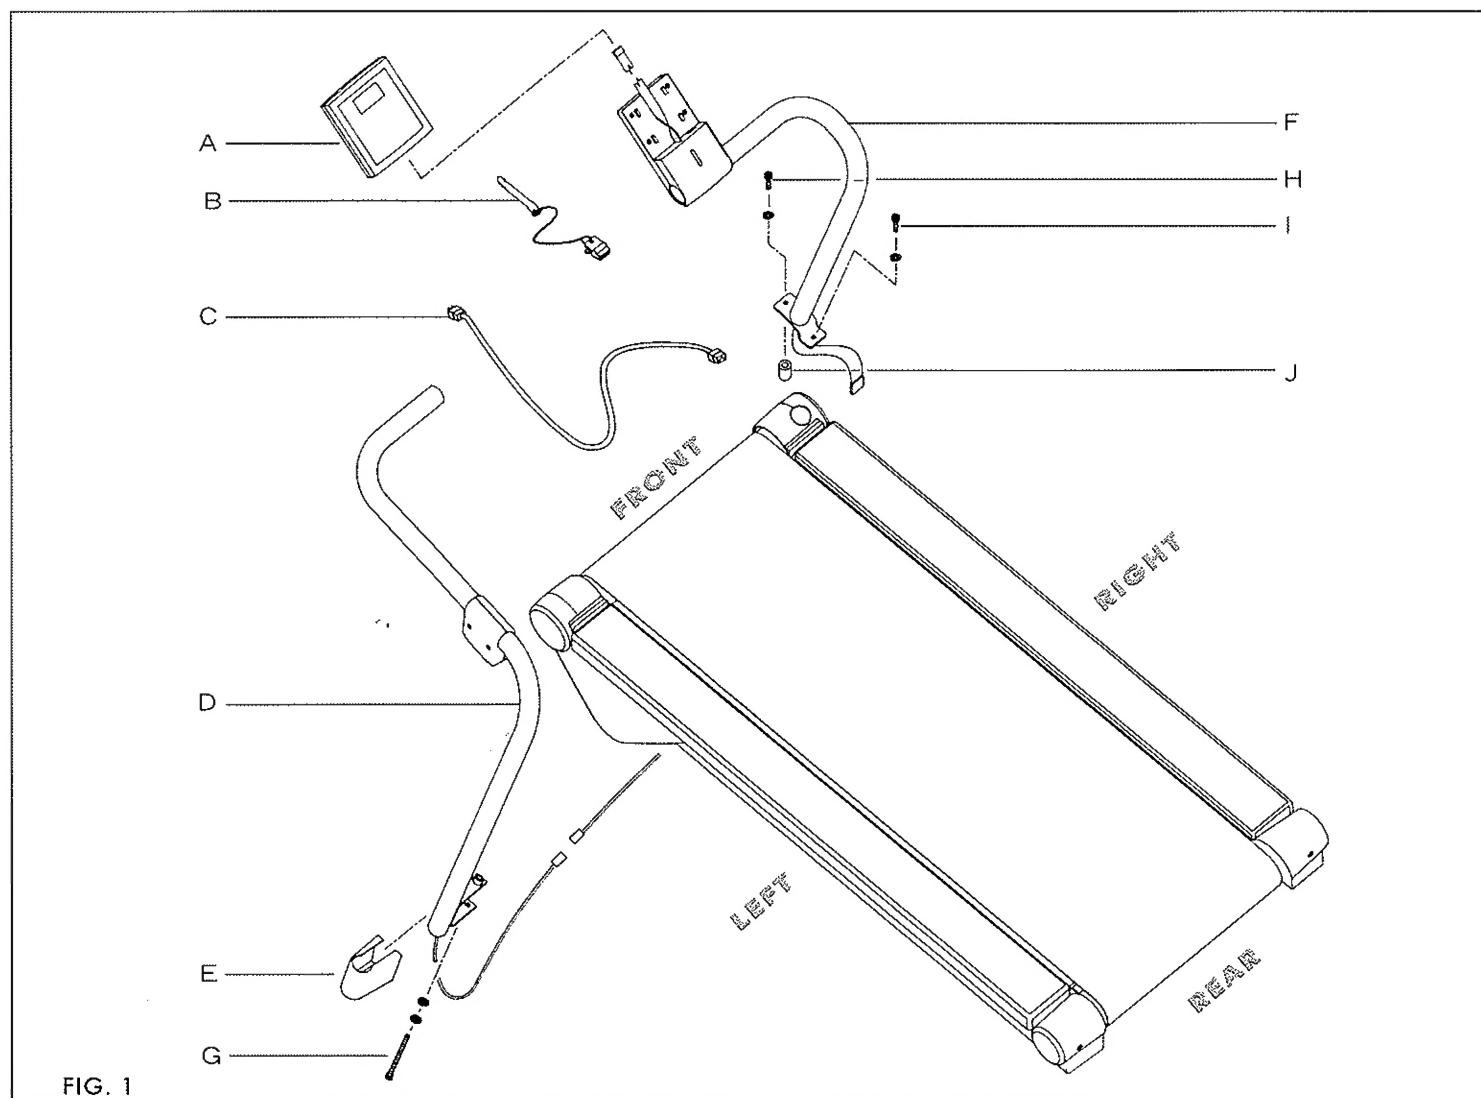

FIG. 1
STEP 1 MAKE SURE ALL PARTS & HARDWARE KIT ARE PRESENT (FIG. 1)
Refer to FIG. 1, page 5 for left, right, front & rear orientations.